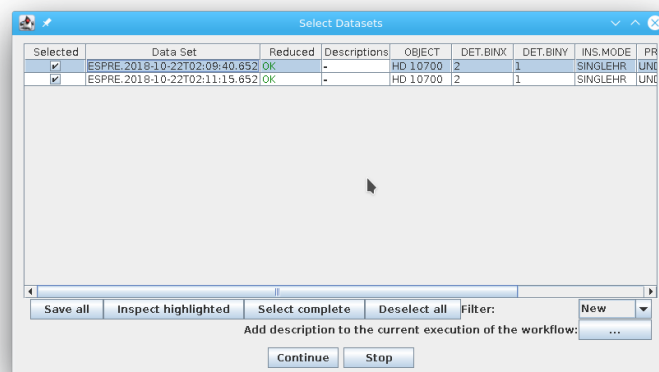

Figure 3.0.3: *The "Select Datasets" pop-up window.*
7. The `Data Set Chooser` actor will be highlighted next and will display a “Select Datasets” window (see Figure 3.0.3) that lists the datasets along with the values of a selection of useful header keywords2. The first column consists of a set of tick boxes which allow the user to select the datasets to be processed. By default all complete datasets which have not yet been reduced will be selected. A full description of the options offered by the `Data Set Chooser` will be presented in Section 6.3.2.